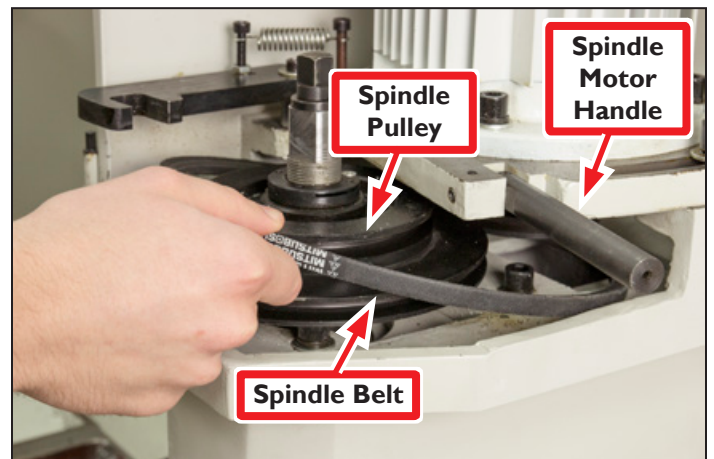

Figure 3
4. Pull the motor forward with the Spindle Motor Handle. When the Spindle Belt slackens, disengage it from the Spindle Pulley (see **Figure 3**).